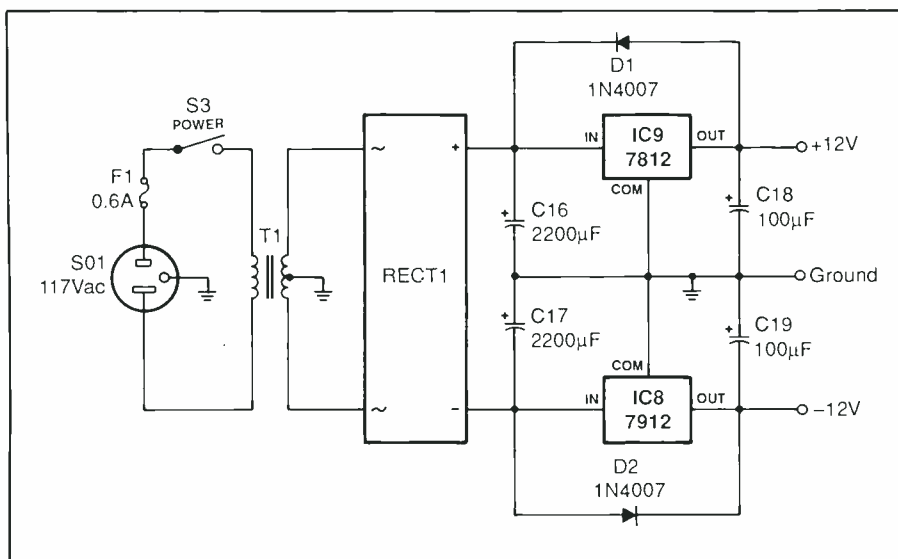

Fig. 9. Schematic of ac-line-powered ± 12 -volt dc supply recommended for powering the project.
Dc power for the project can be supplied by a pair of 9- to 12-volt dc batteries. However, it is better to use an ac-operated dc power supply. The schematic diagram for this power supply circuit is shown in Fig. 9. This is a standard ± 12 -volt, 250-milliamperes supply. Bridge rectifier *RECT1* should be rated at not less than 50 volts and 1 ampere PIV, while power transformer *T1* should be either a 12-0-12 volt ac or 25.6-volt ac center-tapped unit rated to deliver at least 250 milliamperes.
Carefully follow Fig. 4 (A) and (B) for wiring the main circuit and Fig. 9 for wiring the power-supply circuit. As you make each conductor and component run, trace it on the appropriate schematic diagram or a photocopy of it. This way you will keep track of what you have done and what remains to be done. Do *not* install the ICs in their sockets until after you have made preliminary voltage checks to ascertain that the circuit has been correctly wired.